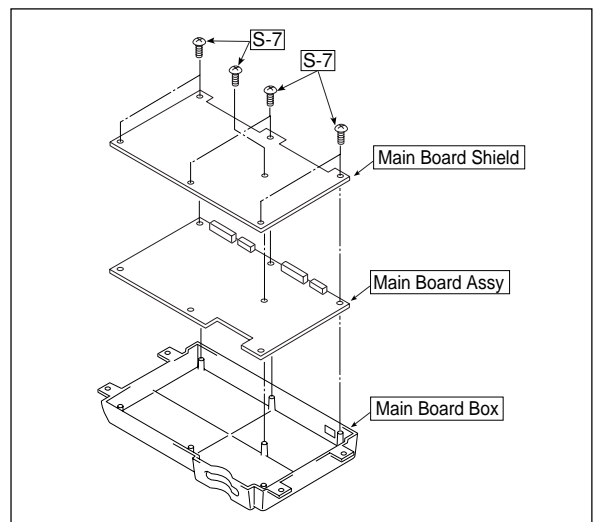

Fig. 5
3. Remove the “S-7” screw shown in Fig. 5 and then remove the Main Board Assy.